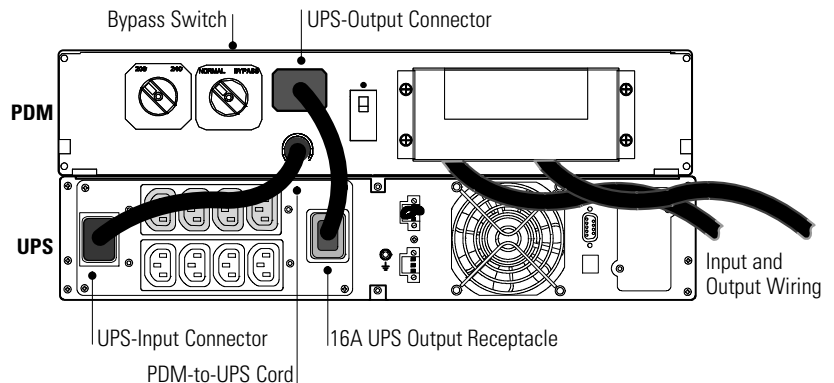
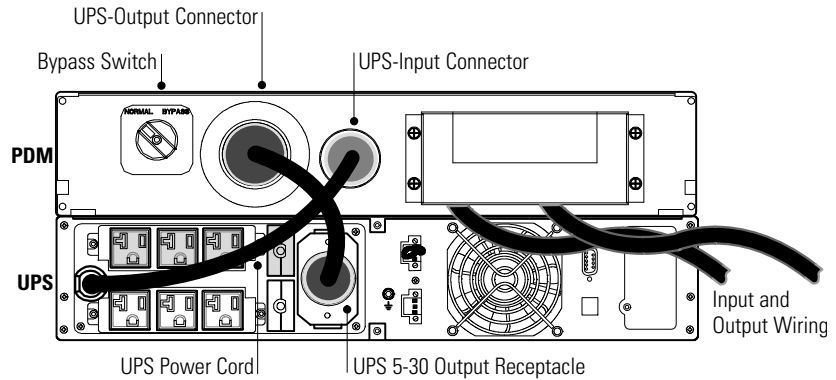

Figure 11. Typical High-Voltage Hardwired Installation [PDM1-HV-US-HW (EPPDMG3000R-2U-HW) Shown]
Figure 12. Typical Low-Voltage Hardwired Installation [PDM2-LV-US-HW (EPPDML3000R-2U-HW) Shown]
2. Verify that the Bypass switch on the PDM is in the NORMAL position (see Figure 11 or Figure 12).
3. PDM1-HV-US-HW (EPPDMG3000R-2U-HW). (Connect the short jumper cable (provided in the accessory kit) from the 16A UPS output receptacle into the UPS-output connector on the PDM. See Figure 11.